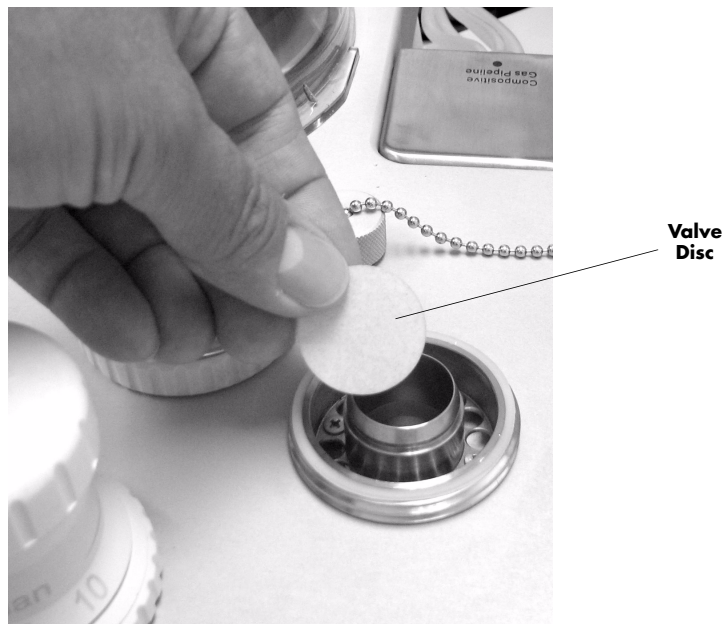

FIGURE 3-11 Valve Disc Removal
4. Remove the valve disc from the valve cage as shown in FIGURE 3-11.